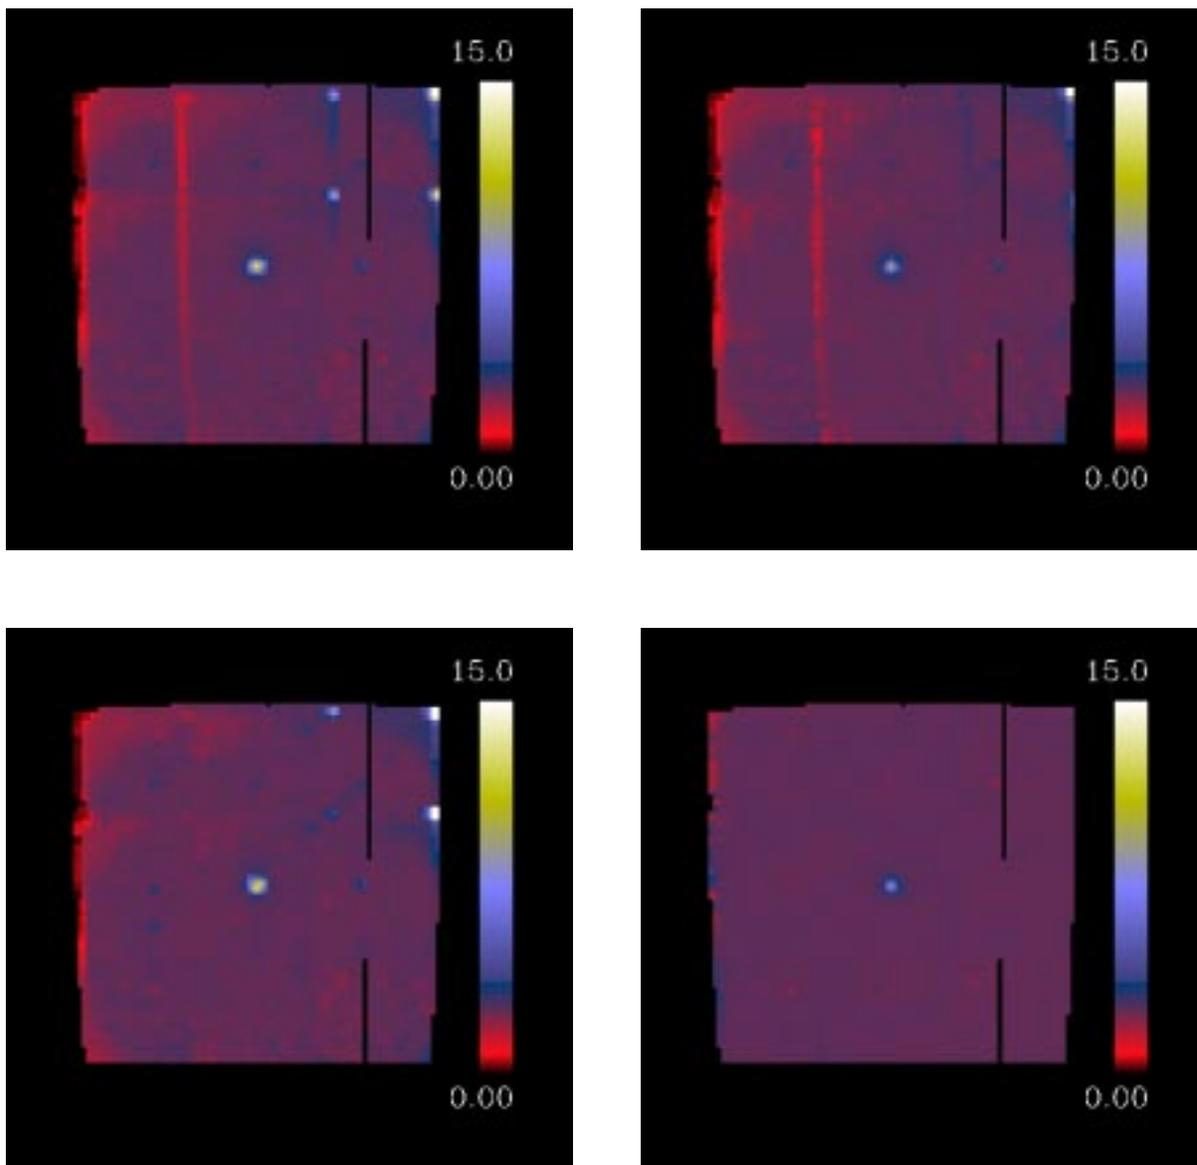

Figure 20.6: **Comparison of standard projection vs. weighted projection**
- Standard treatment (EXPOSURE pixels are weighted by CCIM.NPIX) to create the top left MOSAIC of Figure 20.6:
- Projection using standard variation of each pixel held in CCIM.RMS to create the top right MOSAIC of Figure 20.6:
- Projection using the flat-field error contained in flat-field library to create the lower left MOSAIC of Figure 20.6:
- Projection using the flat-field error computed from the sky-flat (auto-flag) to create the lower right MOSAIC of Figure 20.6: